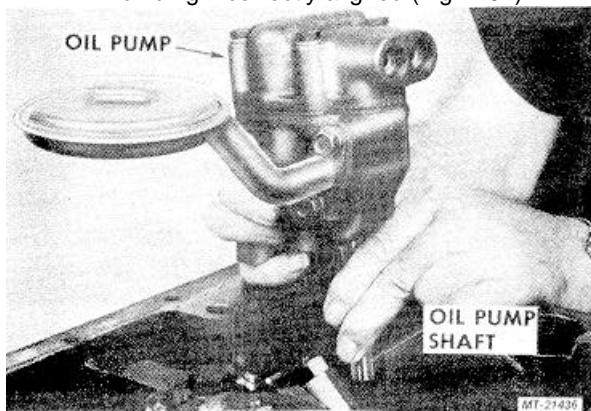

Fig. 164 Checking for Correct Alignment of Pump in Block
- b. Check for correct alignment of pump in block. Pump shaft should rotate freely without binding if correctly aligned (Fig. 164).